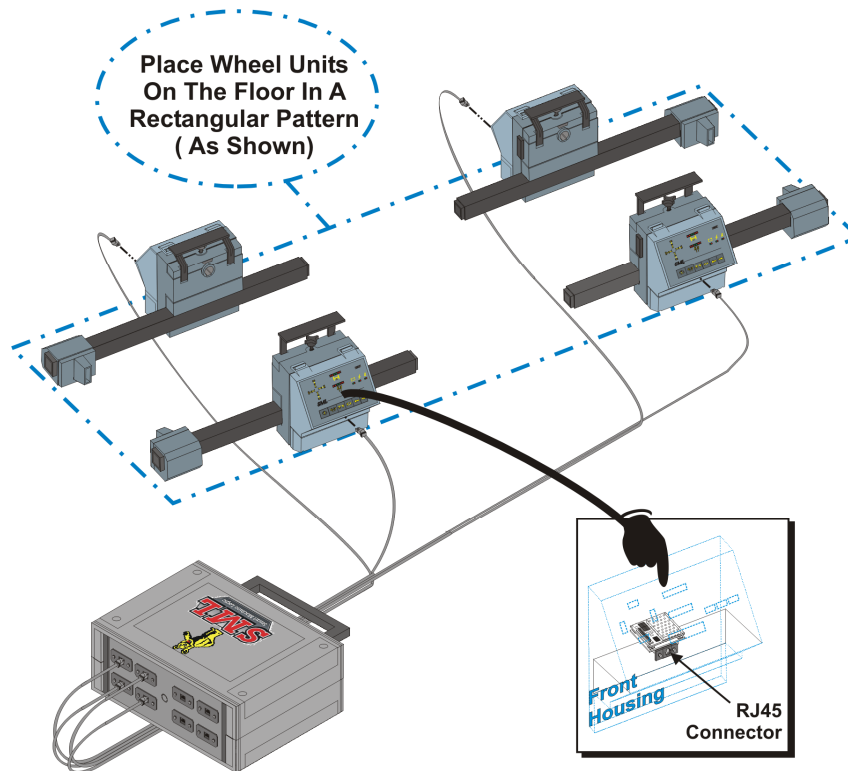

Figure 1-9. Module Connections – Wheel Units
1.3.3.3 Using Figure 1-9 as a guide, position the wheel units in a rectangular pattern on the floor. This aligns the wheel unit's sensors, an arrangement needed when starting up SML Software for the first time.